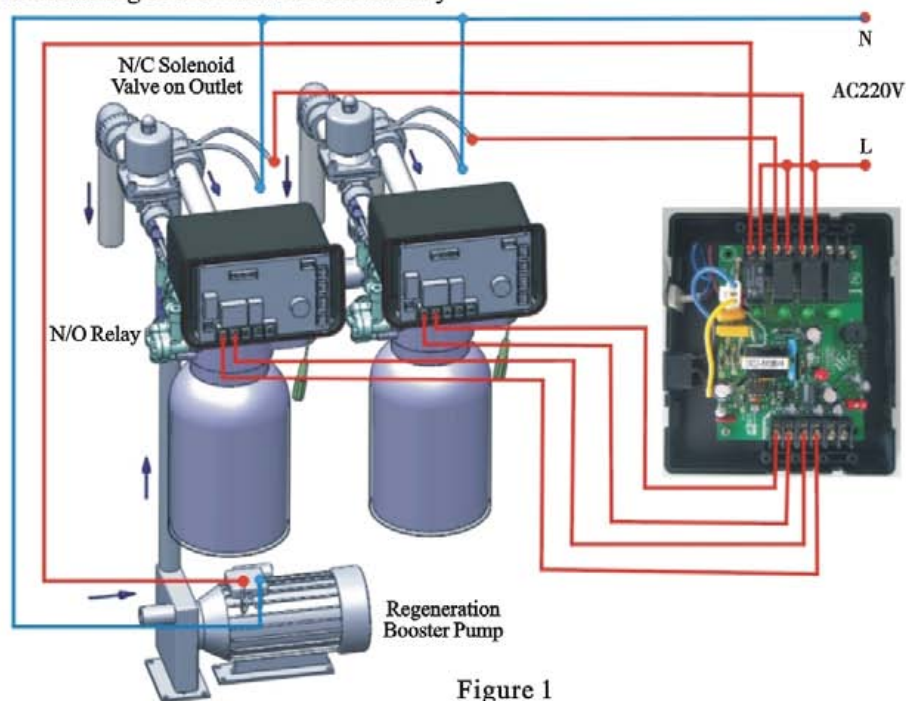
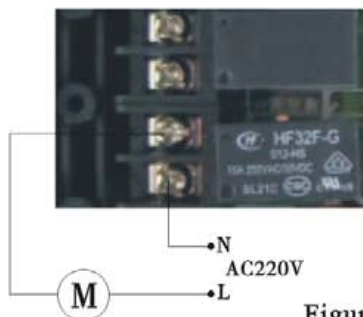
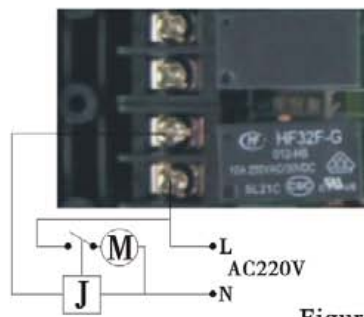

Figure 1
Figure 2
Figure 3
Before using, dial the switch on board to be: "1". Connect wires as figure 1. All of connectors on board are passive switches. When it is closed, the indicator light on.
Before using, dial the switch on board to be: "ON". Connect wires as figure 2. All of connectors on board are passive switches. When it is closed, the indicator light on.
- ① Two valves are meter type. Set signal output mode to be “b-01” of each valve before put them as one in service one standby system.
- ② Dial the switch to be “1” to be “One in service one standby” program. The set will be saved even through power is shut-off.
- ③ “Relay N/O port” is the normal open port of the third black connector on controller, “N/O”, “COM” port.
- ④ “Solenoid valve on outlet” is the AC220V normal close solenoid valve on outlet.
- ⑤ If system need connect with booster pump, connect with the bottom left two connectors in figure 1. If pump current $< 5A$, connect with controller directly (Figure 2); If current $\geq 5A$, it needs to connect with an AC relay (Figure 3).
- ① Three valves are meter type. Set signal output mode to be “b-01” of each valve before put them as two in service one standby system.
- ② Dial the switch to be “ON” to be “Two in service one standby” program. The set will be saved even through power is shut-off.
For one in service one standby system as figure 1, connect transformer into AC100~240V/50~60Hz socket, dial switch on "1" position, all indicators light on for 1 second, then enter work status. Check the system if has one in service one standby function.
For two in service one standby system as figure 2, connect transformer into AC100~240V/50~60Hz socket, dial switch on "ON" position, all indicators light on for 1 second, then enter work status. Check the system if has two in service one standby function.